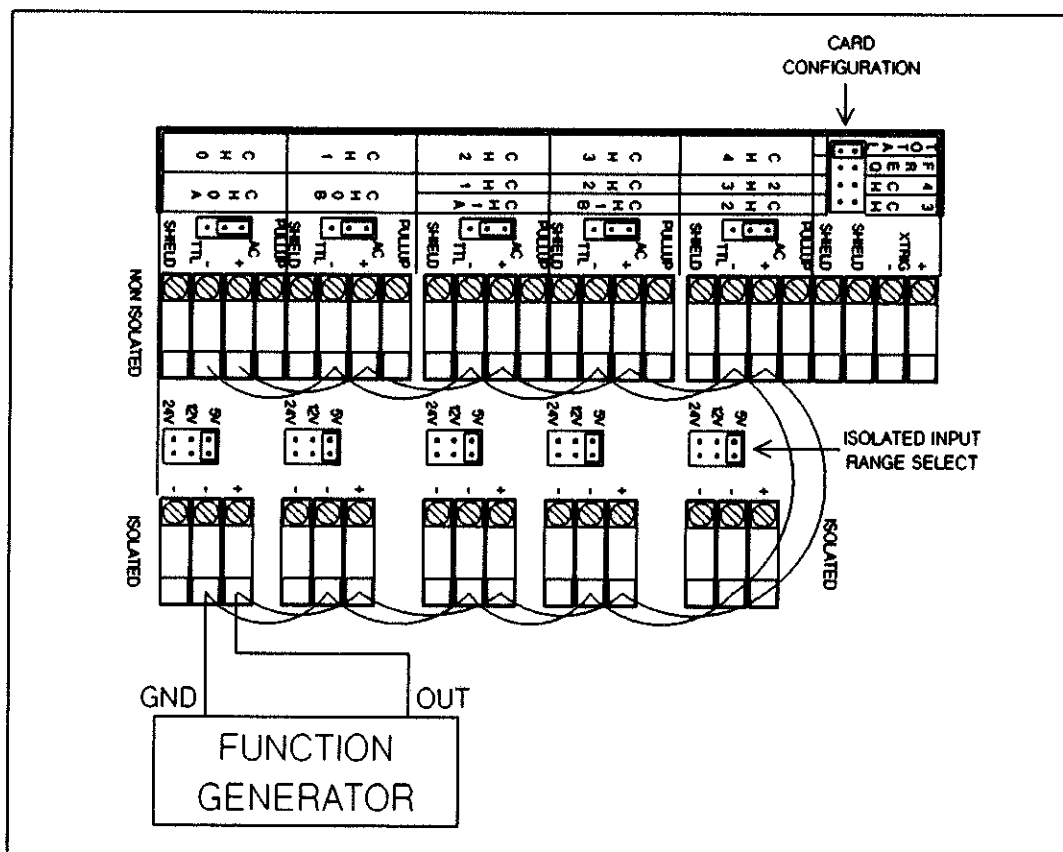

Figure 11-9 Totalize/Interrupt Tests
14. Set the Card Configuration jumper to TOTAL, as shown in Figure 11-9.